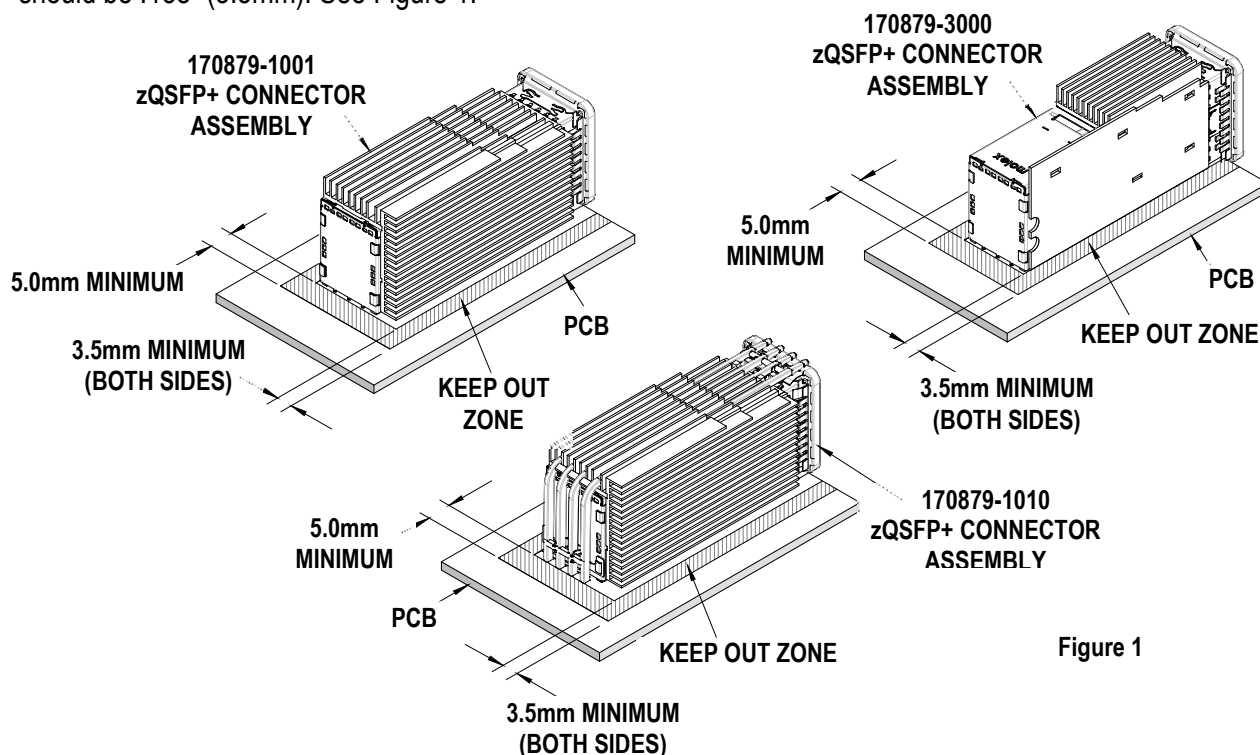

Figure 1
2. These tools require a "Keep Out Zone" around the connector free of components. The right and left sides should be .138" (3.5mm). See Figure 1.